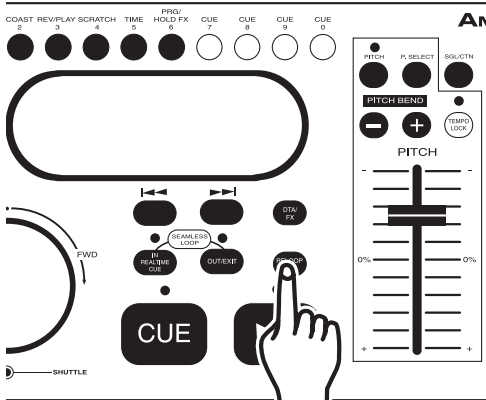

Figure 26
Please note only the ending point of a loop may be edited, a loop may be made shorter or longer. Before you can edit your seamless loop you obviously must first have created a seamless loop to edit. If you haven't created a SEAMLESS LOOP, follow the instructions in step 10. If a SEAMLESS LOOP has already been created, press the RELOOP/BOP BUTTON (30) to activate your SEAMLESS LOOP (Figure 26), if it is not already playing. To edit a loop's ending point: